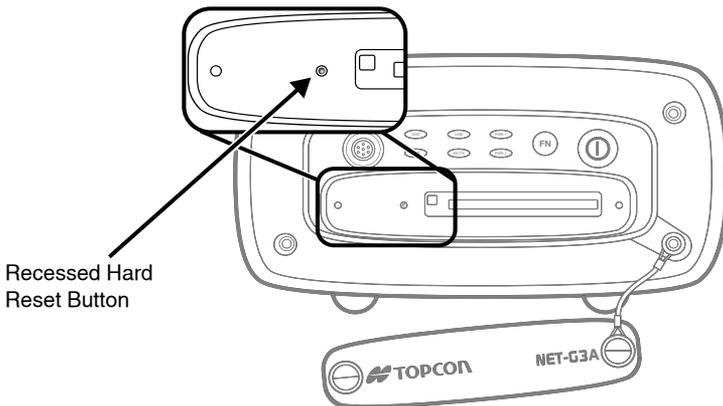

Figure 4-15. Reset the Receiver
2. Insert a paper clip or any pointed stick small enough to fit into the pinhole (Figure 4-15).